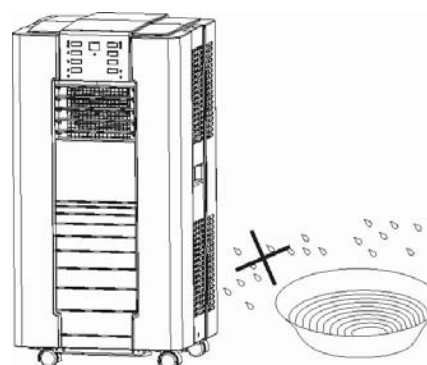

FIG.3
- DO NOT USE IN HUMID OR WET ENVIRONMENTS (FIG 3)